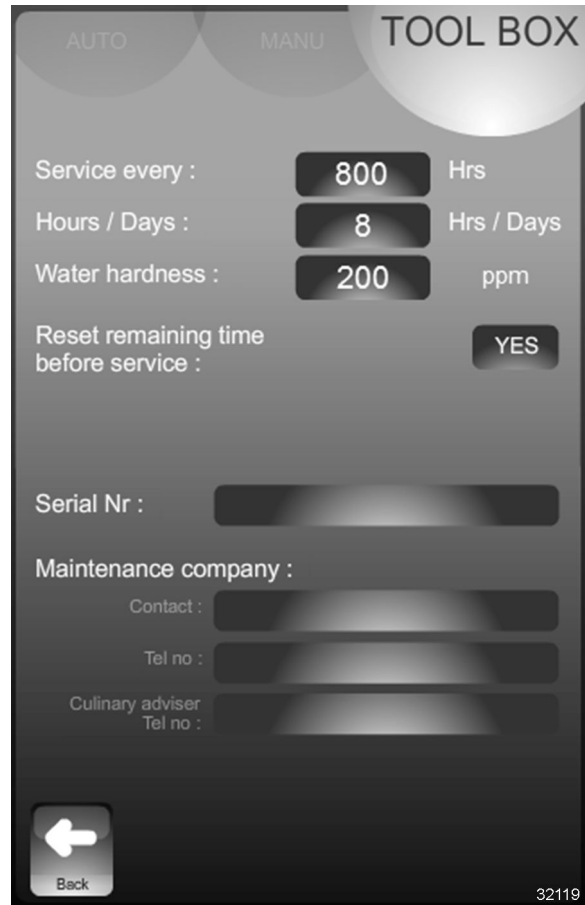

Fig. 133
2. Set / change installation parameters (Fig. 133) by either: